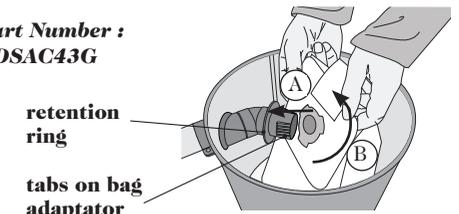

figure 4
3. Install the new bag, ensuring the tabs on the bag adaptor are aligned with the slots in the bag collar (figure 4).
4. Ensure adequate sealing by inserting bag as far as the retention ring (figure 4-A). Rotate bag 20° (figure 4-B) to ensure tabs on bag adaptor are no longer aligned with the slots in the bag collar.